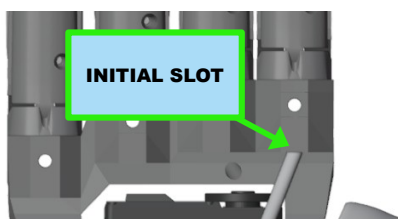
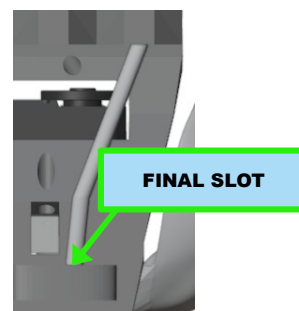

Figure 5.27: Inserting the tube into the initial slot (rear view)
Figure 5.26: Inserting the tube into the final slot (rear view)
1. Insert the PTFE tube into the outlet hole (on the rear of the skeleton) of the flexion tendon (figure 5.26), let it come out through the inlet hole on the front of the skeleton and insert it into the initial slot (figure 5.27)